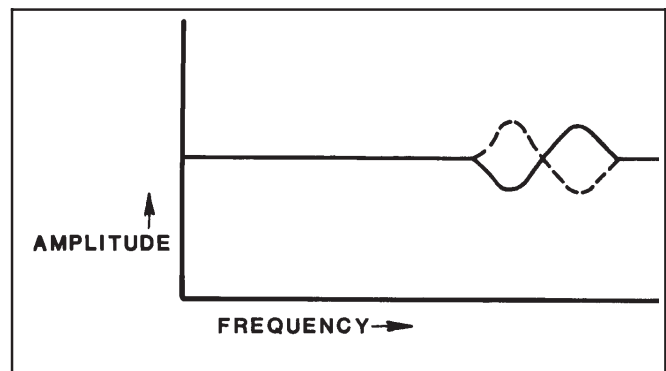

**Figure 5-10**
- l. Set the frequency of the null 3 MHz above carrier using FREQ control. See Figure 5-10.